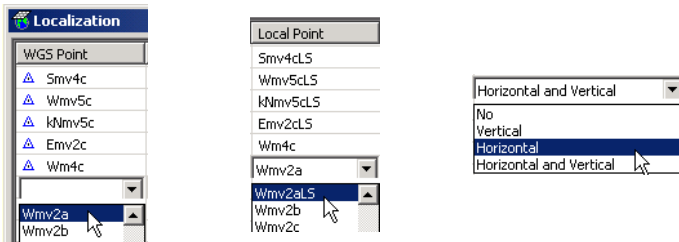

Figure E-34. Localize Point
4. Select the point 'Wmv2a' from the drop-down list in *WGS Point* column (Figure E-34).
5. Select the point 'Wmv2aLS' from the drop-down list in *Local Point* column (Figure E-34).
6. Since this point will be used only in horizontal localization, select 'Horizontal' to change the point's status (Figure E-34).